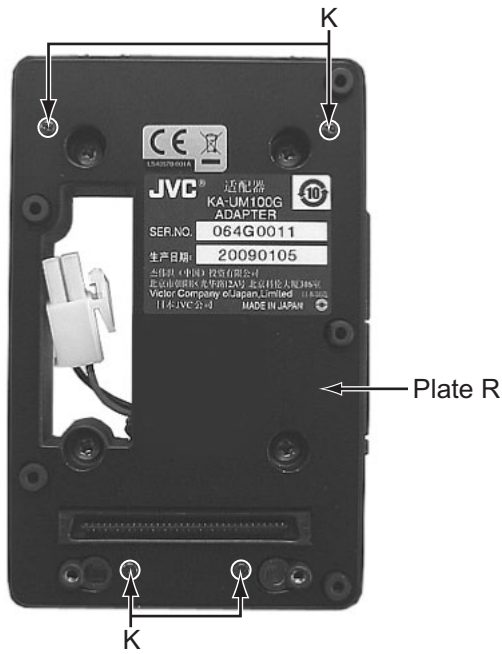
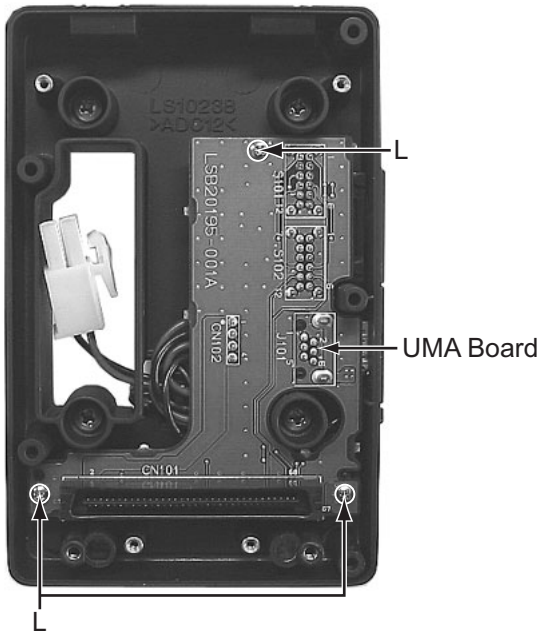
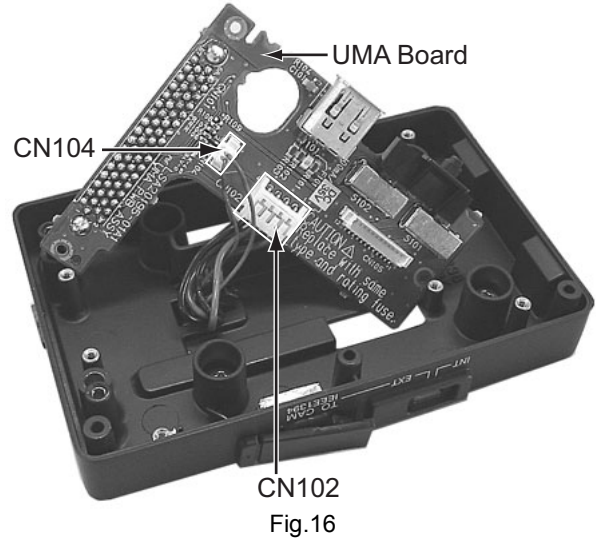

Fig.14
Fig.15
Fig.16
3.2.1 Removing the UMA board (See figure 14, figure 15, figure 16)